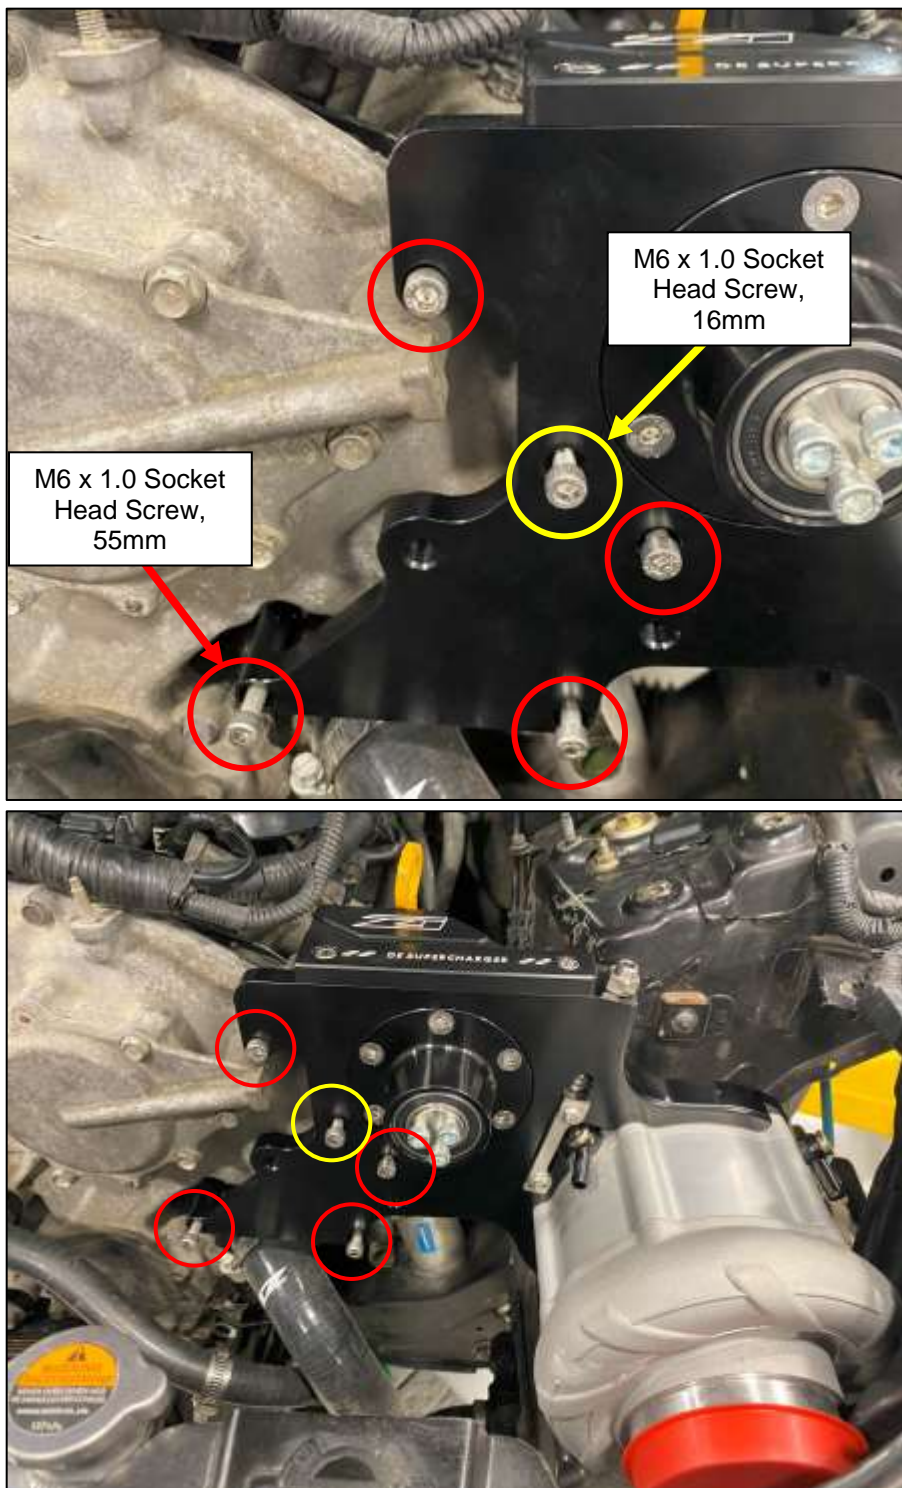

Figure 38
3. Locate the (4) four M6 x 1.0 Socket Head Screws, 55mm (#14), (1) one M6 x 1.0 Socket Head Screw, 16mm (#13) and the Main Supercharger Bracket Assembly (#57). Position the Main Supercharger Bracket over the Timing Cover. The Longer 55mm Bolts will be for the outside of the cover, circled in red. The shorter 16mm bolt will be used in the middle where the Wiring Harness bracket was removed in *Step 2*, circled in yellow. Torque the bolts to **9-10 ft-lbs.** *Figure 38.*